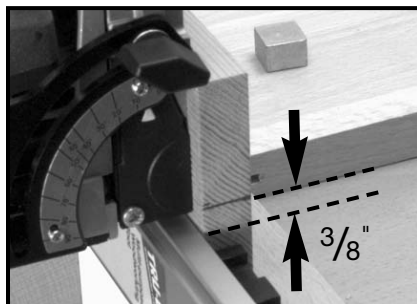

Fig. 24
4. Clamp a straight edge guide to the workpiece, $\frac{3}{8}$ " back from the joint centerline (as marked in Step 2). Clamp workpiece securely (see Fig. 24).